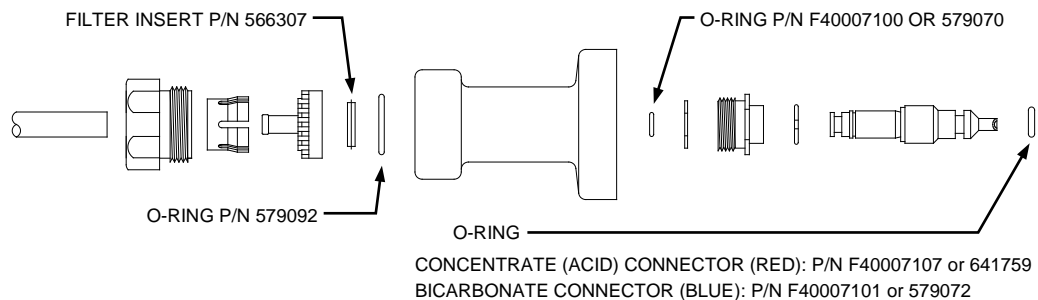

Figure 4. Concentrate (Acid) and Bicarbonate Connector Assemblies.
2. Filters and O-rings in the concentrate (acid) and bicarbonate connectors (See Figure 4). Replace all three O-rings in each connector.